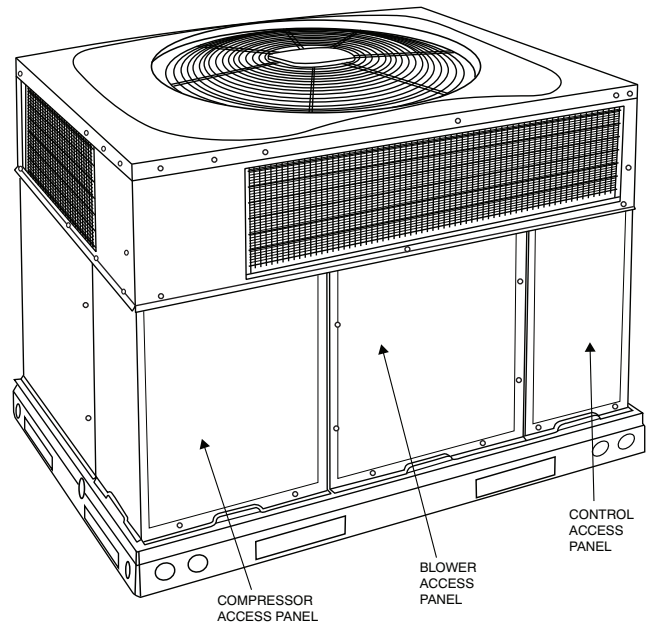
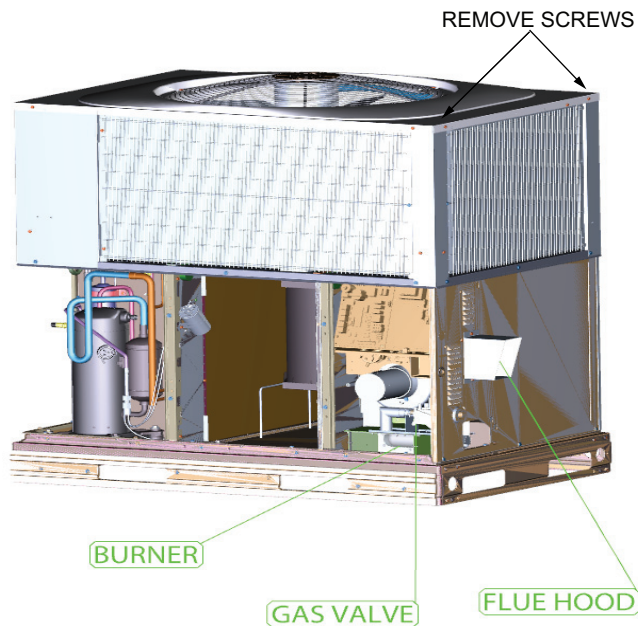

Fig. 2 – Unit Access Panel
Fig. 3 – Gas Heating/Electric Cooling Unit with Access Panel Removed
Refer to Fig. 2 for location of unit front access panel. Refer to Fig. 3 for location of gas valve. Refer to Fig. 4 while proceeding with the following steps.
4. Remove the control access panel with a 5/16-in. nut driver. (See Fig. 2.)
4. Remove the control access panel. (See Fig. 2.)
To replace or inspect filters in accessory filter rack (See Fig. 2):